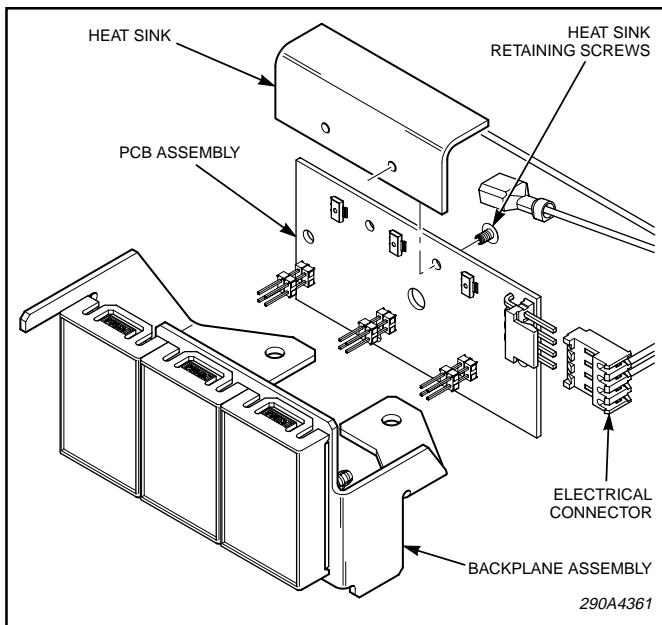

Figure 1.
- b. See figure 1. Disconnect the electrical connector from the PCB assembly.